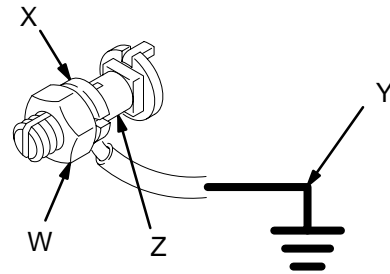

Fig. 2
- *Pump:* Use a ground wire and clamp as shown in Fig. 2. Loosen the grounding lug locknut (W) and washer (X). Insert one end of a 12 ga (1.5 mm²) minimum ground wire (Y) into the slot in lug (Z) and tighten the locknut securely. Connect the other end of the wire to a true earth ground. Order part number 222-011 Grounding Clamp and Wire.